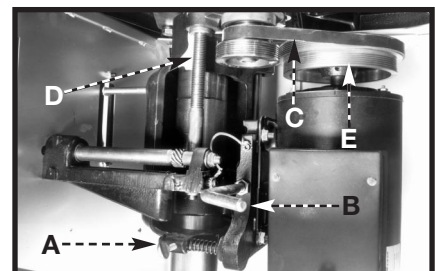

Fig. 20
2. Loosen the thumb screw (A) Fig. 20. Release tension on the belt by moving the lever (B) to the left. Position the belt (C) on the desired steps of the spindle pulley (D) and the motor pulley (E), and apply belt tension by moving the lever (B) to the right. When the desired belt tension is attained, tighten the thumb screw (A).
3. Proper belt tension is approximately a 3/32" deflection when using light finger pressure on the belt between pulleys. **IMPORTANT:** Pulleys (D) and (E) Fig. 20 should always be aligned with each other to provide maximum belt performance and reduce belt wear. To check pulley alignment, refer to section "REPLACING SPINDLE CARTRIDGE".